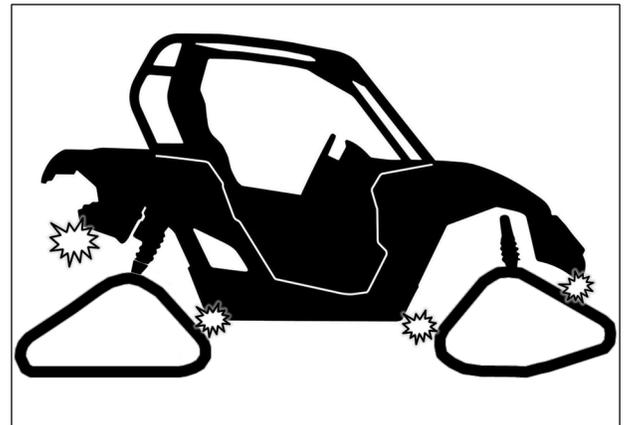

Fig. 23
- Verify for possible contact between Track System and lower fender corners. See Fig. 23